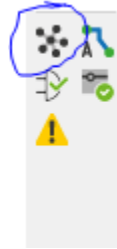
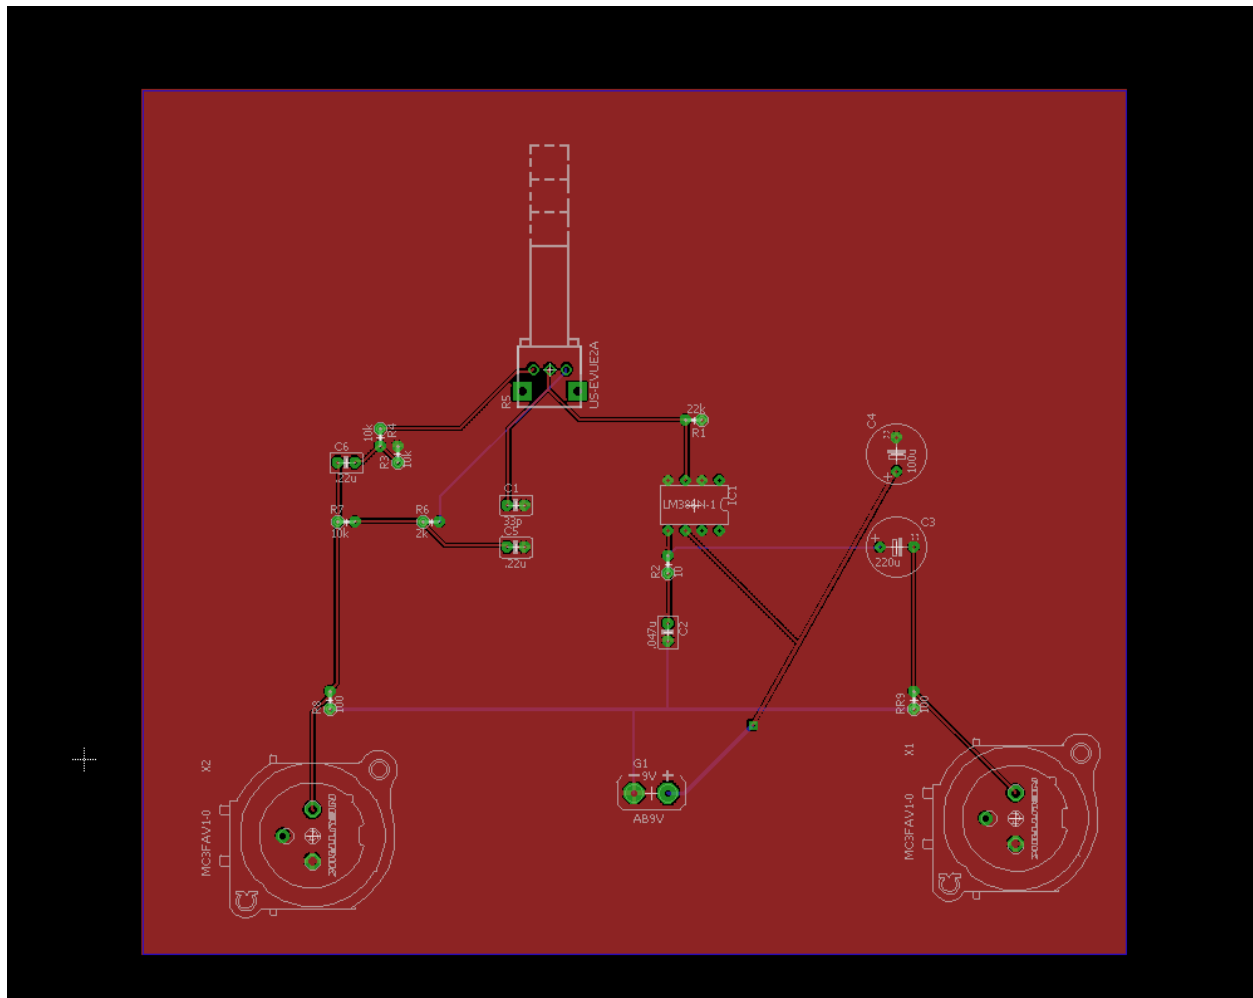

Figure 19
Figure 20
6. Once the polygon is named, click the **ratsnest** tool to fill in the polygon. **Figure 19** shows the **ratsnest** tool and **figure 20** shows the final printed circuit board.